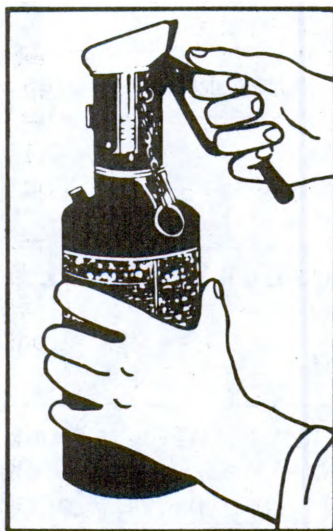

Figure 2
- b. Grasp the M11 in one hand (fig. 2) and lift up on the charging handle with the other. You should hear a hissing noise which indicates the compressed gas from the nitrogen cylinder has entered and charged the M11.